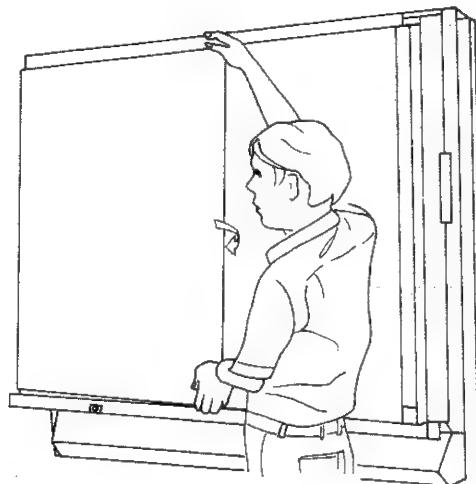

Figure 27
(11) Lift up the white sheet bobbin and draw it out from the lower white sheet holder.
(12) While rolling up the white sheet TIGHTLY on the bobbin which was drawn out, carry the bobbin from the right side of the board to the left side. (Figure 27)